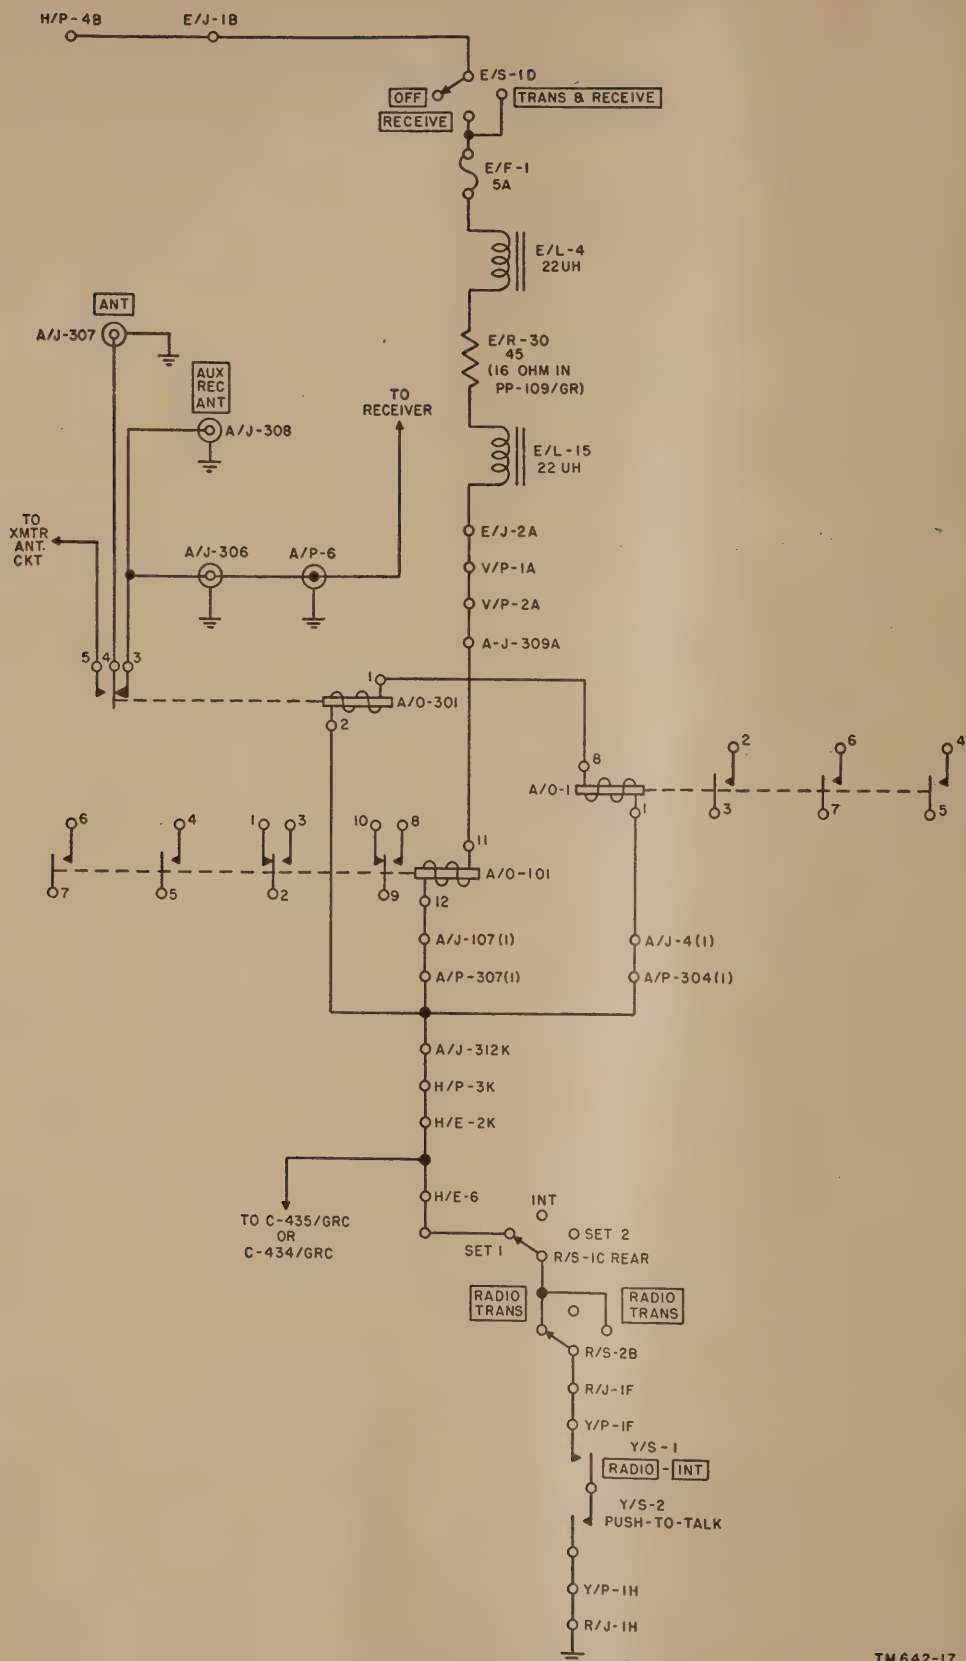

Figure 36. Transmit control circuits.
b. *Transmit Control Circuits* (fig. 36). The distribution of power to either the transmitter or the receiver sections of the receiver-transmitter is controlled by three relays, A/O-1, A/O-101, and A/O-301. When these relays are energized they transfer the receiver-transmitter from the receive to the transmit condition. The relays are energized when a push-to-talk switch is operated or when the DIAL LIGHT (OFF-ON)-RING switch is set at RING.
(1) Battery voltage is applied to the three relay coils (which are connected in parallel) through terminal E/J-1B, the RECEIVE or the TRANS & RECEIVE positions of switch E/S-1D, fuse E/F-1, coil E/L-4, voltage-dropping resistor E/R-30, and coil E/L-15. E/R-30 has a value of 45 ohms in Power Supply PP-112/GR which is used with a 24-volt battery supply and a value of 16 ohms in Power Supply PP-109/GR. In either case, the voltage applied across the relay coils is dropped to a value of approximately 6 volts.
(2) The ground return for the relay coils is made through one of several paths. The most commonly used path (fig. 36) is through the Set 1 position of R/S-1C rear, through either one of the RADIO TRANS. (closed) position of R/S-2B, through the RADIO positions of Y/S-1, and through Y/S-2 (the push-to-talk switch) to ground. When the circuit is completed to ground, the relays are energized. Alternate ground returns may be established through the RING position of the DIAL LIGHT (OFF-ON)-RING switch, or through a push-to-talk switch associated with control C-434/GRC or the control panel of the receiver-transmitter.
(3) The antenna plugs into ANT jack A/J-307. This jack is connected to contact 4 of relay A/O-301. Normally, the antenna is connected through contacts 4 and 3 of A/O-301 to the auxiliary receiver and to the receiver section of the receiver-transmitter. When A/O-301 is energized, contacts 4 and 3 open and contacts 4 and 5
75. Control Circuits (fig. 36)
a. General. Push-to-talk control of the receiver-transmitter is possible at the AUDIO receptacles of the receiver-transmitter, all of the control box positions (Control Box C-375/VRC), Local Control C-434/GRC, and Remote Control C-433/GRC (figs. 36, 94, and 95). Interphone push-to-talk control is possible at the AUDIO receptacle of the interphone amplifier and at any one of the control boxes. In the following discussion the relay and microphone circuits to the control positions are described.
(1) *Receiver-transmitter.* Application of energizing potential to the circuits containing the receiver-transmitter control relays is covered in paragraph 70b and is shown on figures 36 through 39. The three control relays of the receiver-transmitter (A/O-1, A/O-101, and A/O-301) are supplied with energizing potential from the receiver-transmitter power supply. The ground side of the relay is connected to the two AUDIO receptacles of the receiver-transmitter (A/J-310F and A/J-311F) (G, 27), to section 1B of DIAL LIGHT (OFF-ON)-RING switch A/S-302, and to the mounting through terminal K of REC-TR CONTROL receptacle (A/J-312) (G, 27). Wiring within the mounting distributes the lead from A/J-312K to each of the control positions, H/E-6(1) for Control Box C-375/VRC, and H/J-1C for Control C-435/GRC (not used in these radio sets) or Control Group AN/GRA-6. Switch A/S-302 in the RING position completes the ground circuit for the control relays and the input circuit from 1,600-cycle ringing oscillator (par. 81).